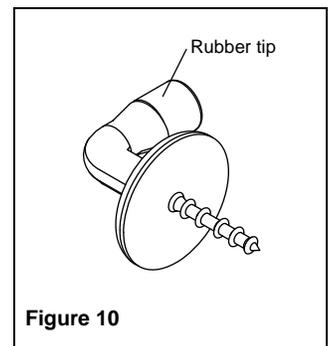

Figure 10
10. Attach the door stop in pre-drilled holes at the top and bottom of the stationary panel on OOX and XOO units. Remove the rubber tip by pulling it off the stop before installing. Replace it once the stop has been positioned correctly with the tip facing the operating panel. See figure 10.